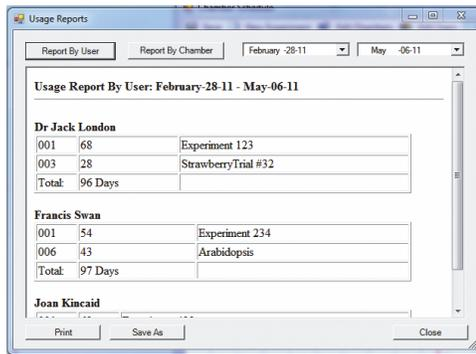

Figure 4-10 Usage Reports by User
3. To view usage information by user account, click **Report By User** (Figure 4-10).